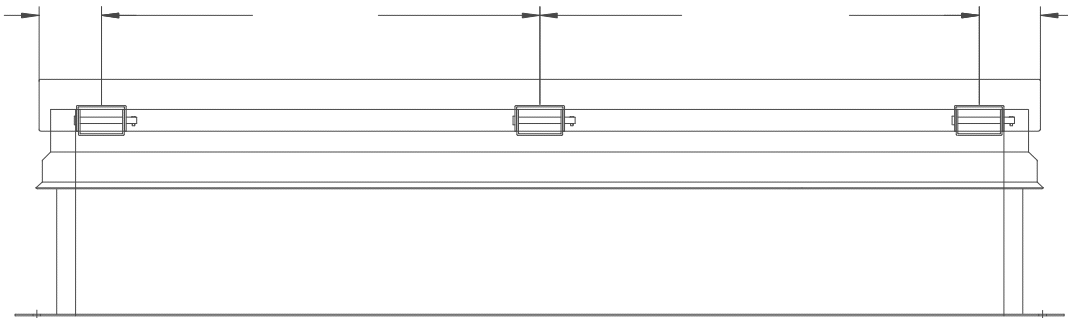

FIG. 2
4. Number of Hinges: \_\_\_\_\_ Hinge Location (Refer to Fig. 2 Below)